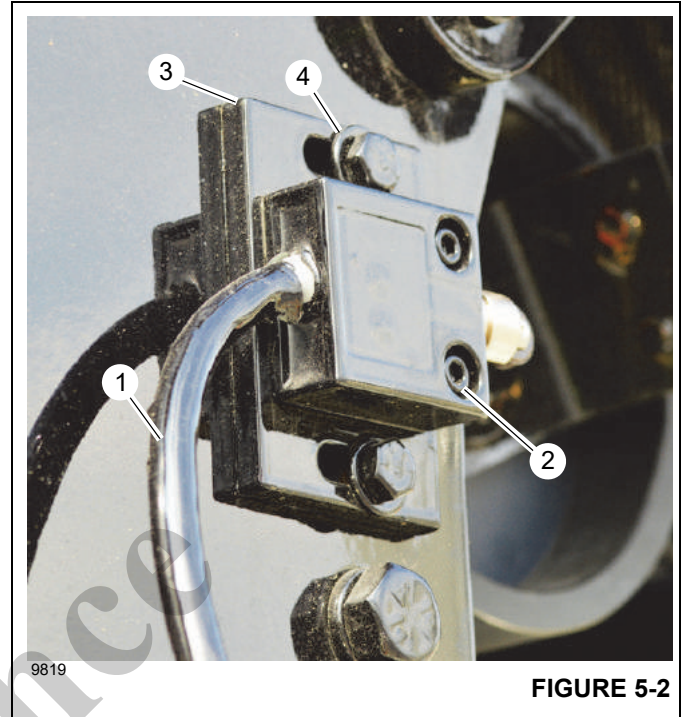

FIGURE 5-2
The 3rd Wrap Indicator is integrated in to the RCL system. The 3rd wrap indicator assembly (Figure 5-2) is located on the bearing support (left) side of the crane hoist. The 3rd wrap indicator is designed to notify the operator when there are three wraps of wire or synthetic rope remaining on the hoist drum.
1. Disconnect the 3rd wrap indicator cable (1, Figure 5-2) from the 3rd wrap indicator connector located inside the hoist frame.
2. Remove capscrews (2) and remove the 3rd wrap indicator assembly from the plate (3).
3. Remove capscrews and washers (4) and remove the 3rd wrap indicator plate (3) from the hoist.